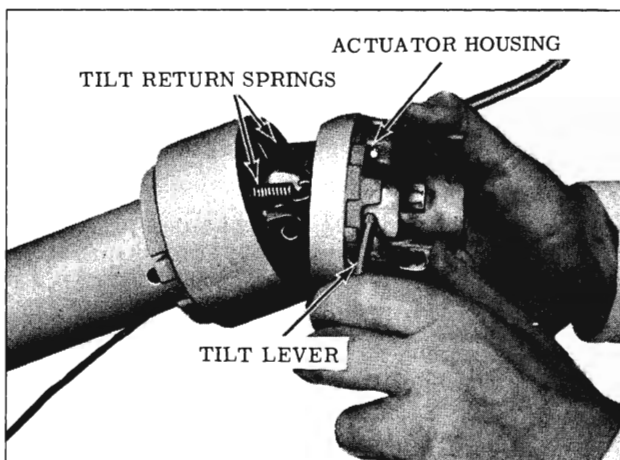

Fig. 4-90 Removing Actuator Housing
- Slightly lift the tilt lever to disengage the lock shoes from the pins and remove the actuator housing, then remove the tilt return springs and the upper shaft lower bearings. (Fig. 4-90)